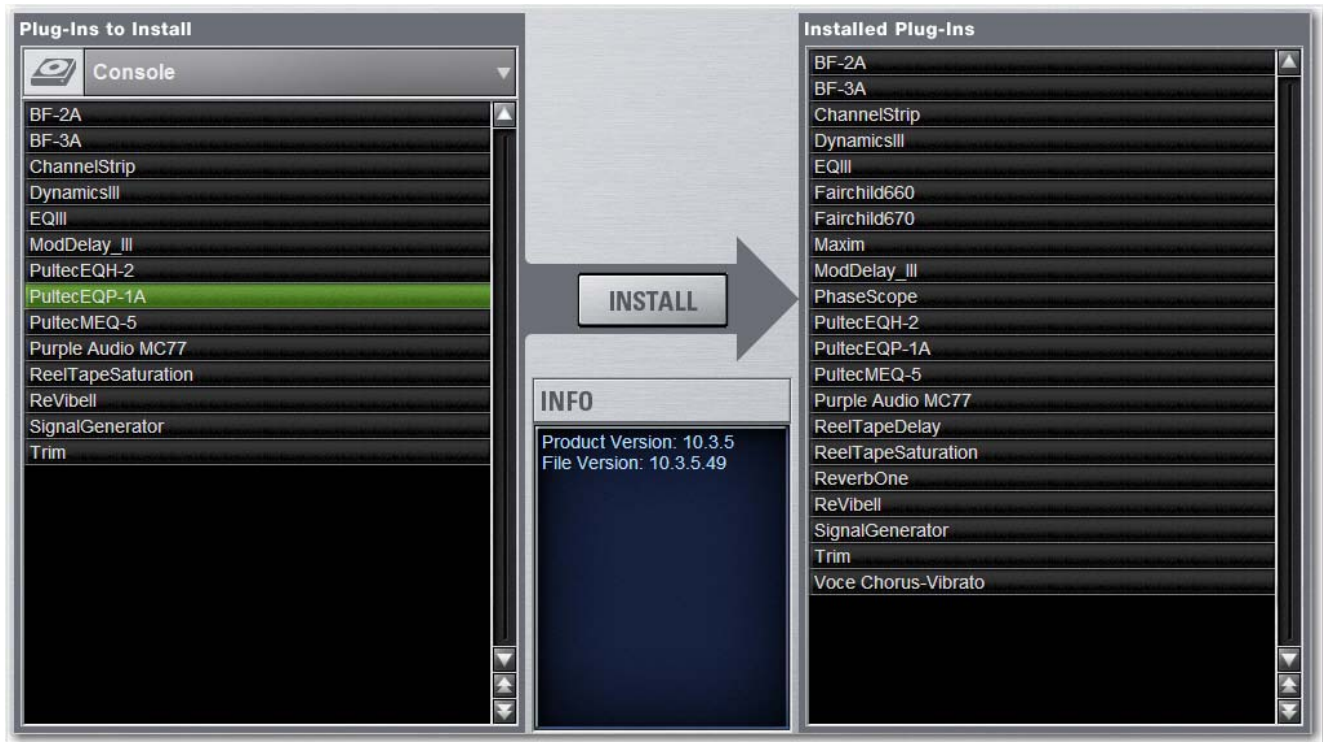

Figure 2. Options > Plug-Ins screen
- 2 Go to the Options page and click the Plug-Ins tab. The following two lists are shown (see Figure 2):